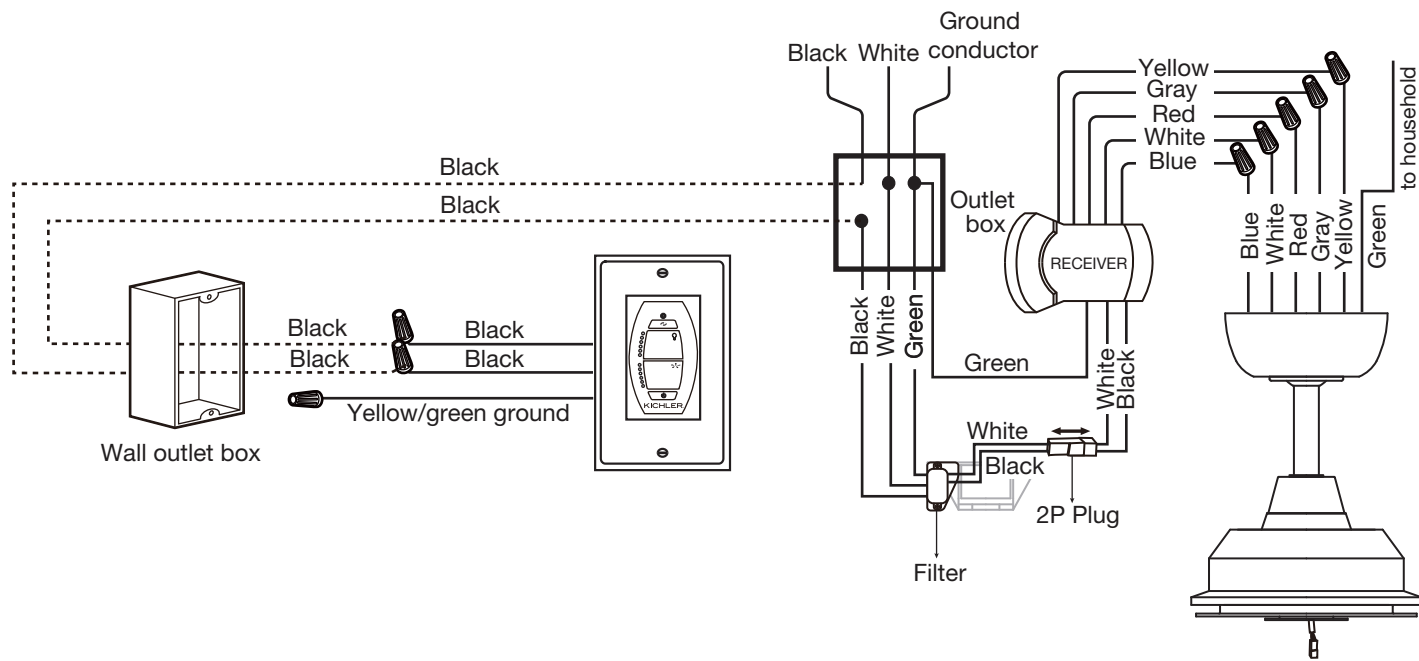

Fig. 13
Make each of the wire connections illustrated in Figure 13. Secure each with the wire nuts provided.
Step 1. Connect the Blue wire from the fan (motor) to the Blue wire from the receiver. White wire from the fan (motor) to the White wire from the receiver. Red wire from the fan (motor) to the Red wire from the receiver. Gray wire from the fan (motor) to the Gray wire from the receiver. (Fig. 13)
Step 1. Snap together the 2-P wire connection plugs from the receiver and filter: Black to black , White to white. (Fig. 13)
Step 1. Black wire (TO MOTOR L) from the Wall Control to the Black wire from the Wall Outlet Box. (Fig. 13)